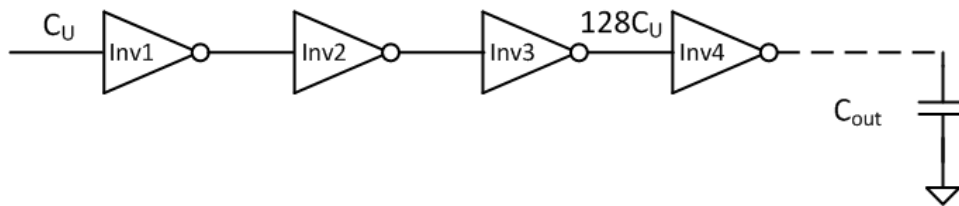

Figure 2
- c) Due to constraints on the specific placement of that inverter in the chip (and how much space is available there), the fourth inverter of the chain must have an input capacitance of $C_{in,4} = 128 * C_u$ (see Figure 2). Given this new constraint, how would you redesign the chain in order to minimize its overall delay? What is the delay of this new chain?